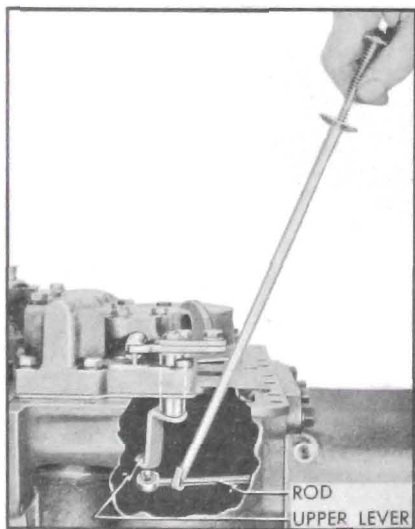

Figure 5-101—Connecting Valve Operating Rod to Upper Lever
6. Using Linkage Hook-Up Finger J 2591, position the socket of valve operating rod under the ball of valve upper operating lever and pull upward until ball snaps into the socket. See figure 5-101.